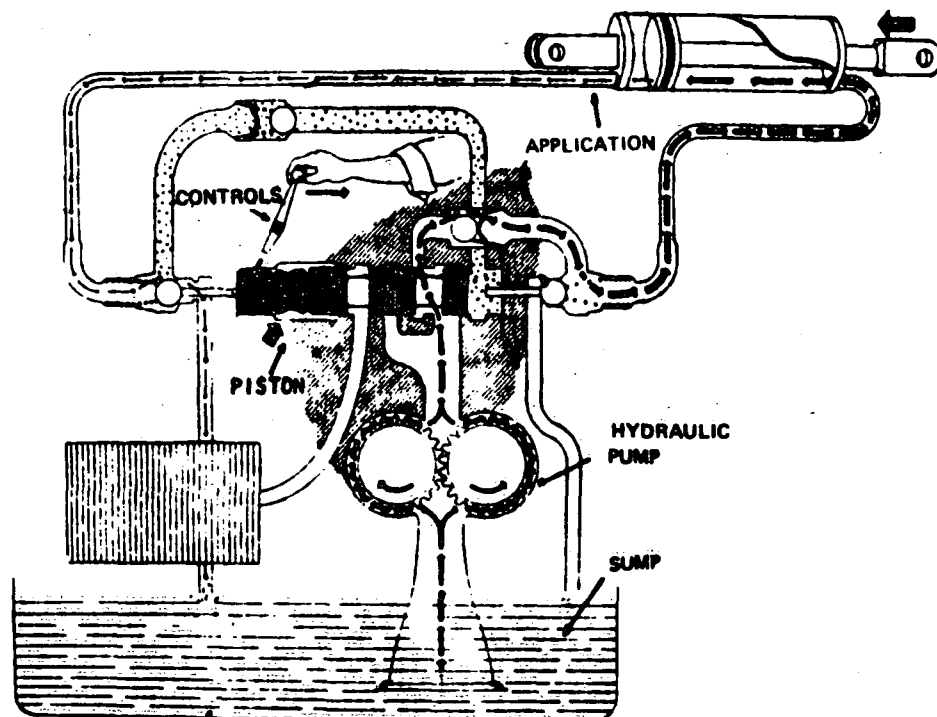

Fig. 2 - The cylinder in the diagram can be replaced with another application: clutch, brake, transmission, etc.
Figure 2 shows the position of the three-point linkage with respect to the drawbar (2) and the power take-off (3).